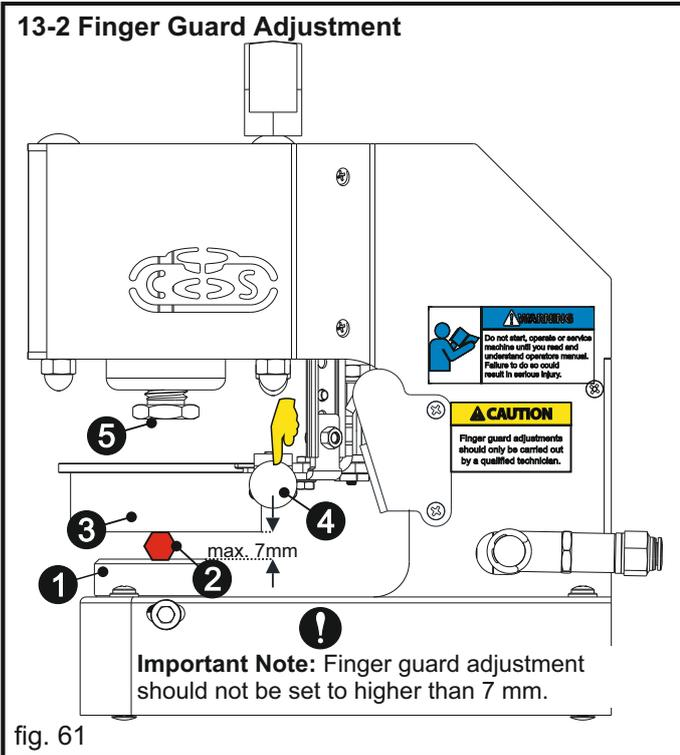

fig. 61
For decreasing the **operational height** between finger guard and lower die, loosen the allen screws ⑥ with allen key. Turn the allen screw ⑦ on the back side of the machine in clockwise direction. Tighten the allen screws ⑥ & repeat the test shown in (fig. 61). This setting will increase the safety level of the operation as well.
For increasing the **operational height** between finger guard and lower die, loosen the allen screws ⑥ with allen key. Turn the allen screw ⑦ on the back side of the machine in counterclockwise direction. Tighten the allen screws ⑥ & repeat the test shown in (fig. 61). This setting allows you to attach the eyelets on thicker materials.